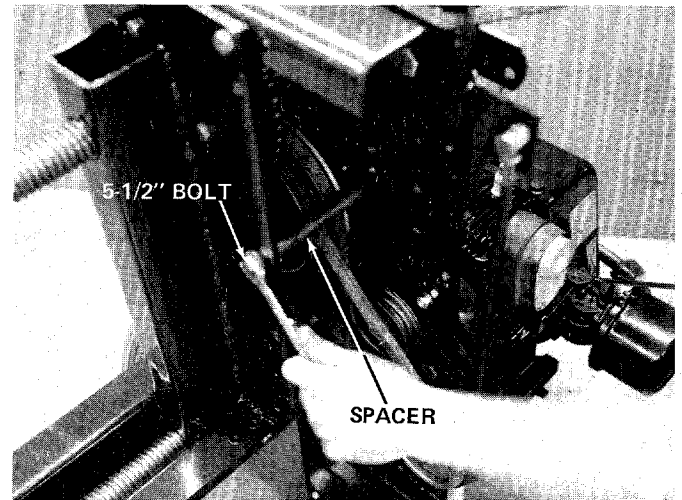

FIGURE 8
5. Remove the 5-1/2" bolt and spacer, located on the left hand side of unit, which act as a belt keeper. Two 9/16" wrenches are required. See figure 8.